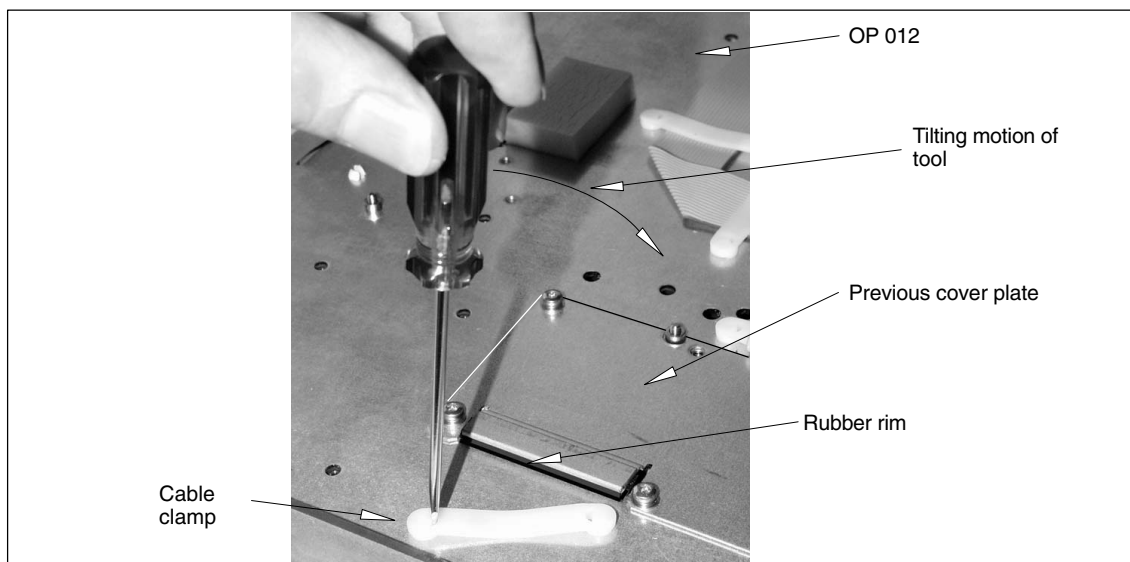

Fig. 11-7 Removing the cable clamp from the OP 012
4. Remove the rubber rim from the edge of the housing cutout (used to secure a pushbutton panel cable) (see Fig. 11-7).